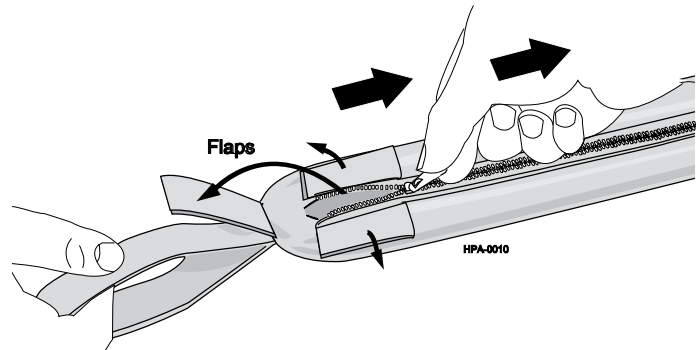

Figure 6 — Unzipping the Sleeve
Step 2: Lift the hook-and-loop flaps to expose the zipper pull. While holding the sleeve's pulling loop with one hand, unzip the sleeve (Figure 6).